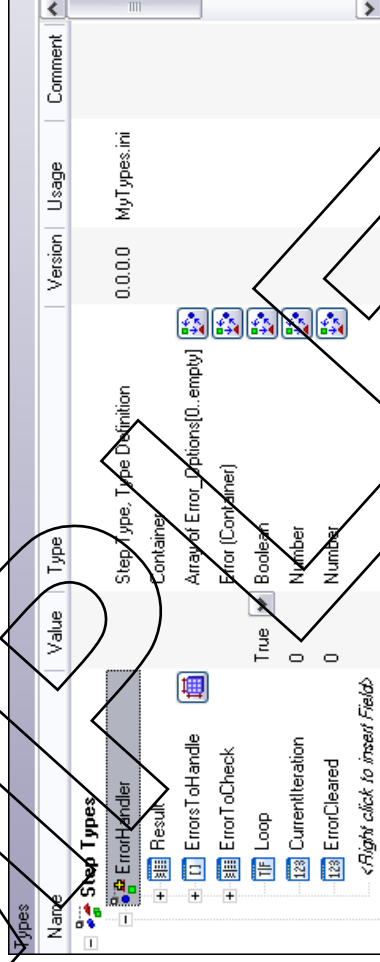

Figure 3-1. ErrorHandler Step Type Properties
- Verify your ErrorHandler step type properties match Figure 3-1.